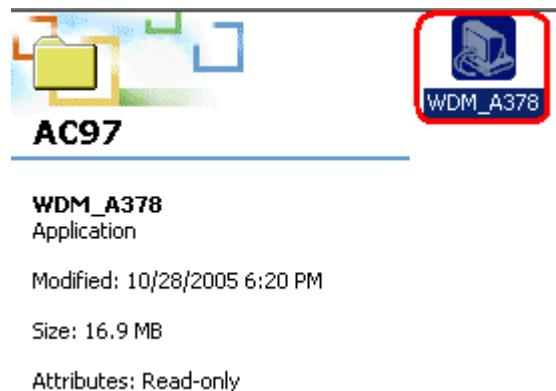

Figure 7-6: Audio Driver Setup Icon
Step 5: Locate the **Setup** program icon. (See **Figure 7-6**)